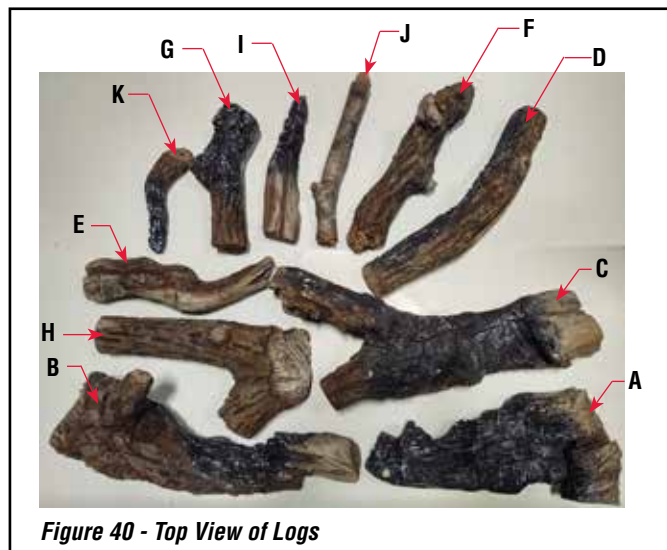

Figure 40 - Top View of Logs
- Install logs (reference **Figure 40**).